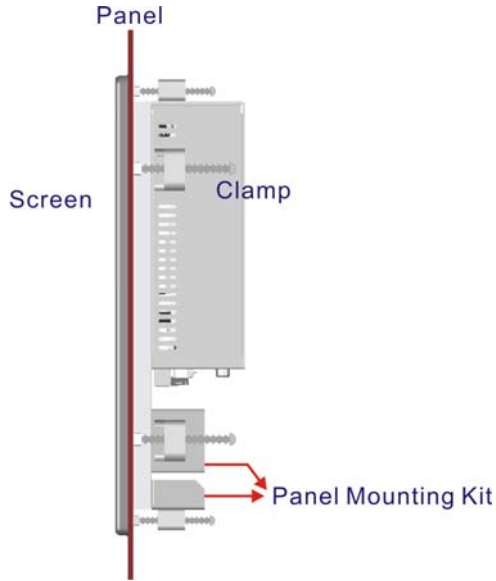

Figure 4-27: Tighten the Panel Mounting Clamp Screws
- Step 6:** Tighten the screws that pass through the panel mounting clamps until the plastic caps at the front of all the screws are firmly secured to the panel (**Figure 4-27**).